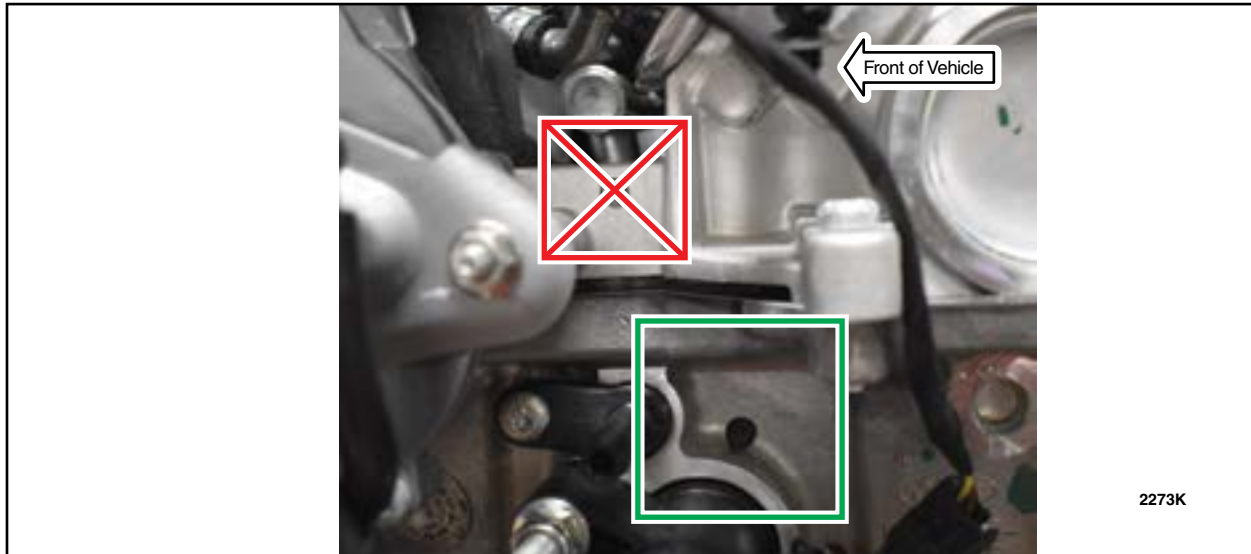

FIGURE 3
17. Clean area with Motorcraft Brake Cleaner. See Figure 3.